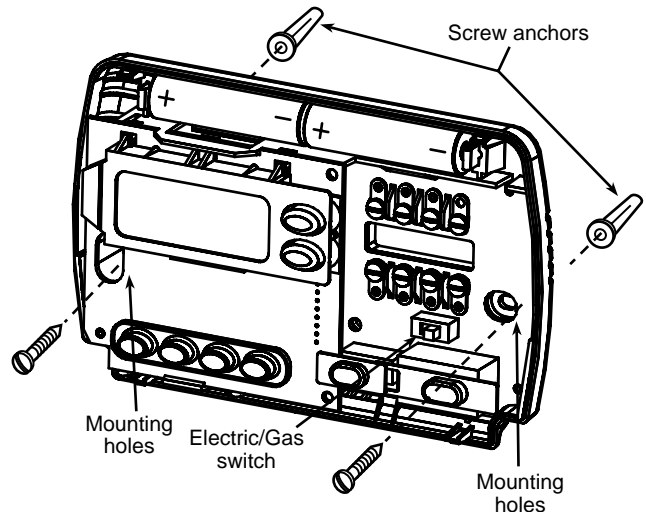

Figure 1. Thermostat Base
This thermostat is configured from the factory to operate a heat/cool, fossil fuel (gas, oil, etc.), forced air system. It is configured correctly for any system that DOES NOT require the thermostat to energize the fan on a call for heat. If your system is an electric heat or heat-pump system that REQUIRES the thermostat to turn on the fan on a call for heat, locate the **GAS/ELECTRIC switch** on the back of the thermostat (see fig. 1) and switch it to the **ELECTRIC** position. This will allow the thermostat to energize the fan immediately on a call for heat. If you are unsure if the heating/cooling system requires the thermostat to control the fan, contact a qualified heating and air conditioning service person.
5. Fasten base loosely to wall, as shown in fig. 1, using two mounting screws. Place a level against bottom of base, adjust until level, and then tighten screws. (Leveling is for appearance only and will not affect thermostat operation.) If you are using existing mounting holes, or if holes drilled are too large and do not allow you to tighten base snugly, use plastic screw anchors to secure subbase.
If "**BATT**" is displayed, the batteries are low and should be replaced with fresh "AA" Energizer® alkaline batteries. To replace batteries, install the batteries along the top of the base (see Fig. 1). The batteries must be installed with the positive (+) end to the left.